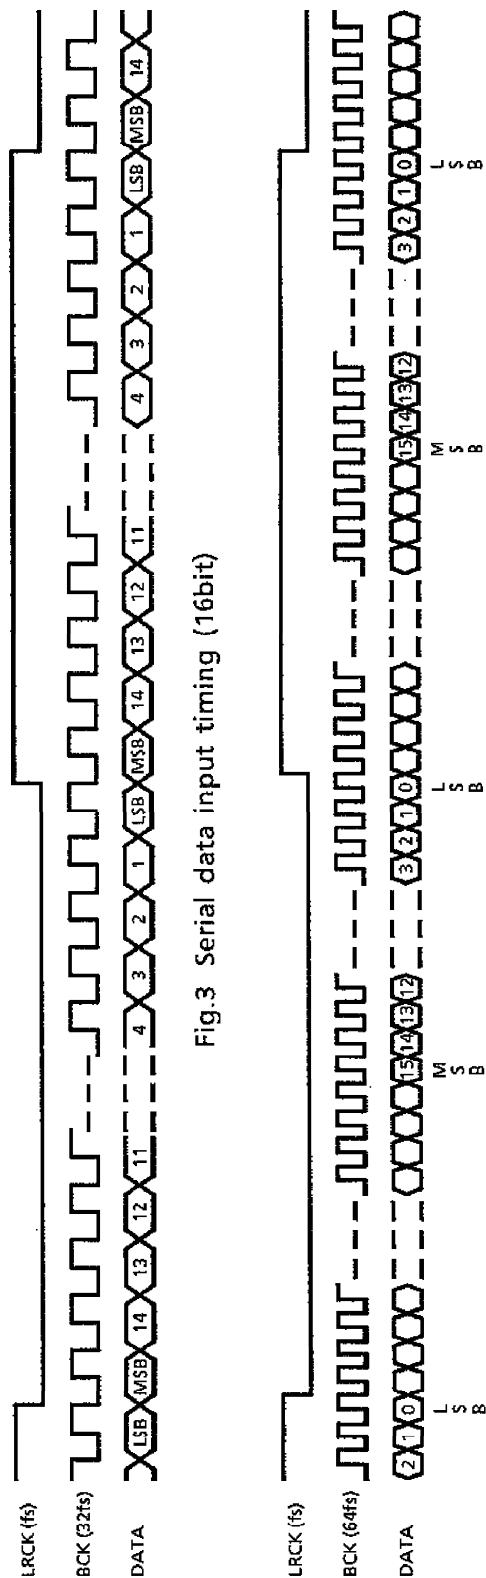

Fig.3 Serial data input timing (16bit)
- Refer to Figures 3 and 4 (a) when the input data is 16bit/ch.